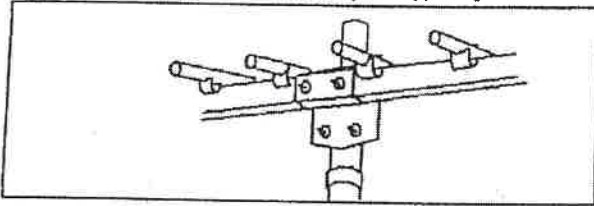

Figure 2 Mounting Detail
- Loosely assemble the dual 'U' bolt mounting bracket onto the crossarm as shown in Figure 2.